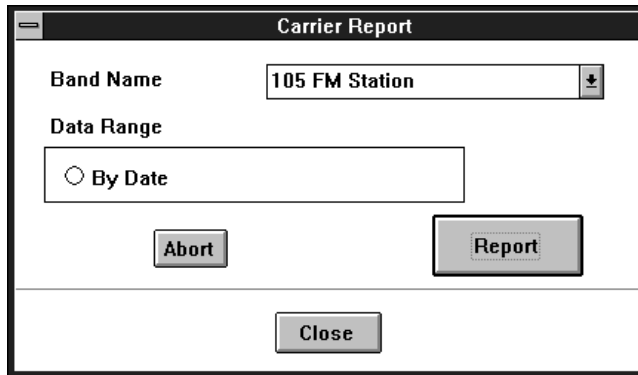

Figure 8-10: Carrier Report Dialog Box
- Select **Carrier Measurements...** from the **Reports List** to open the **Carrier Report** dialog box (Figure 8-10)